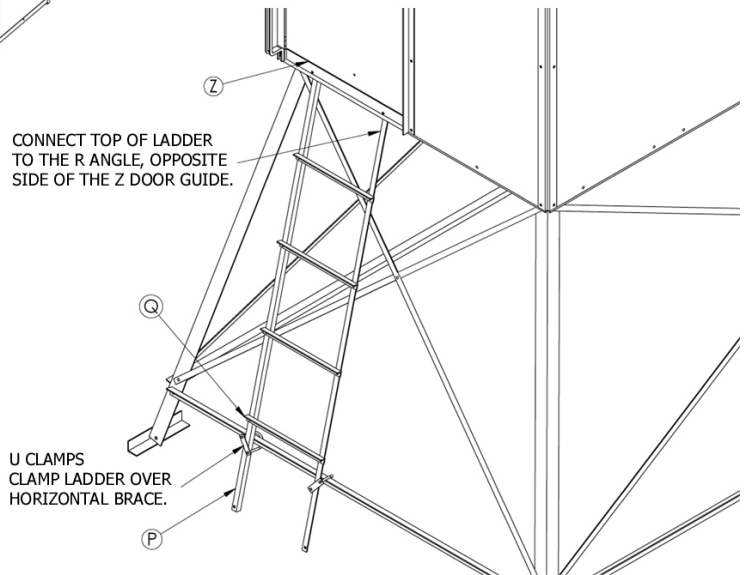

Figure 4
7. Assemble & install the ladder using bolts and U-bolts as pictured. Attach top two holes in ladder runners using existing bolts used to attach the "Z" plate, underneath the blind (opposite the "Z" and behind the angle iron supporting the floor). (Fig. 4)